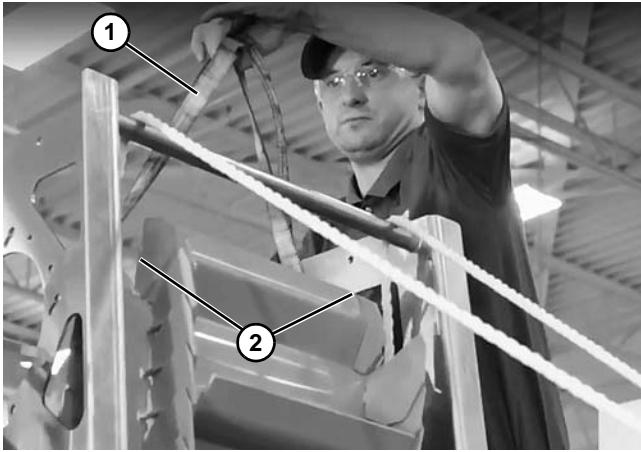

Figure 9
- Slide the support strap (Figure 9, item 1) through the top of the belt (Figure 9, item 2).